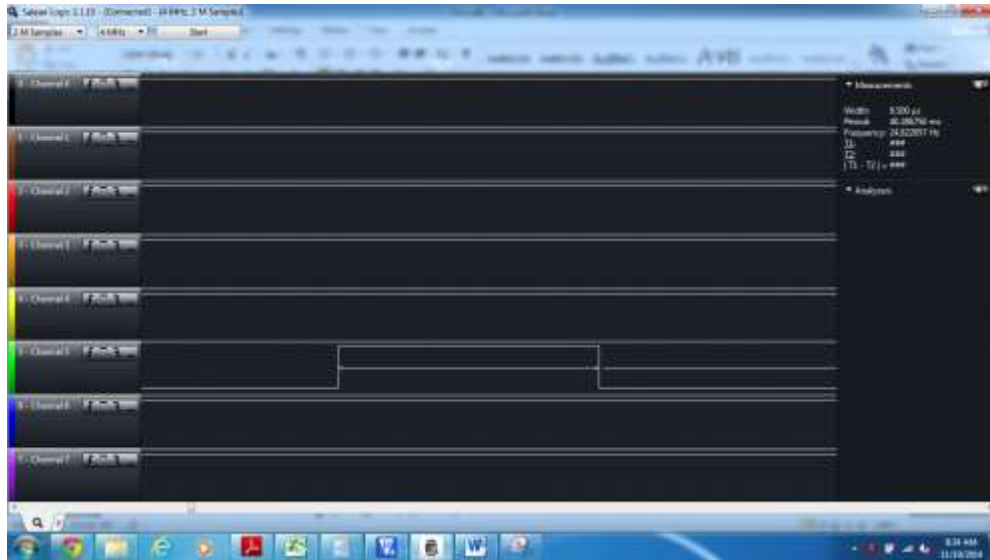

Figure 3: The time for this conversion is 9.5µs
8. Take a snapshot of your logic analyzer and record the time for one conversion, as seen in figure 3.